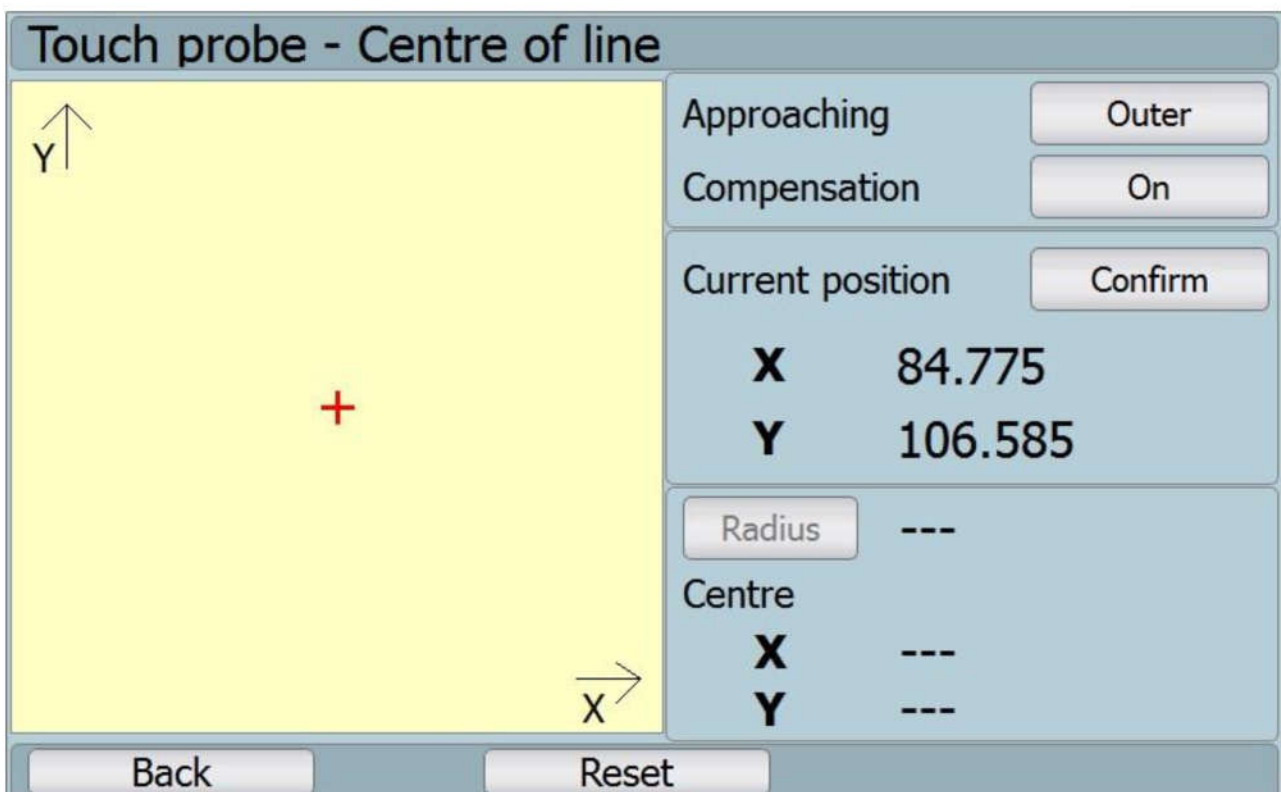

Fig. 46: Touch probe – circle centre
- ⑩ It is used for finding the circle centre entered by means of three points on the touch probe.
- ⑩ After the probe reaches the required coordinate, press button „**Potvrdit**“ (confirm) (see fig. 46: Touch probe – circle centre) the first point is drawn in the scene.